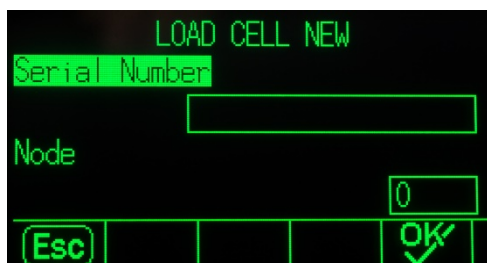

Figure 3-12: Manual Address Load Cell New Screen
- To address a newly added cell into the network, simply press the NEW softkey  from the Load Cells View screen. Enter the cell's serial number and the required node address into the entry boxes shown in the Load Cell New screen (Figure 3-12) then press the OK softkey  to complete the new cell addressing.